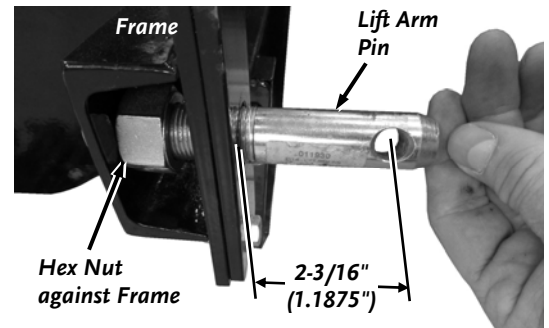

Figure 9
1. Position the Hex Nut inside the plate and channel (**Figure 9**).